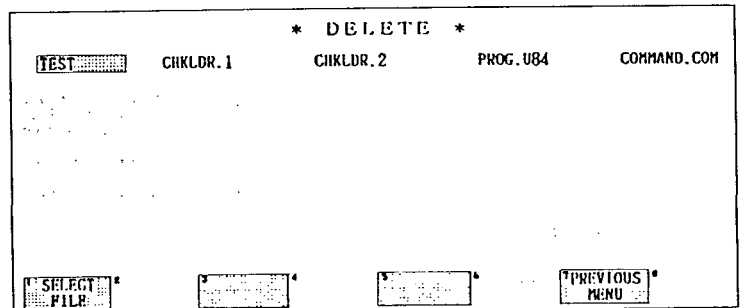
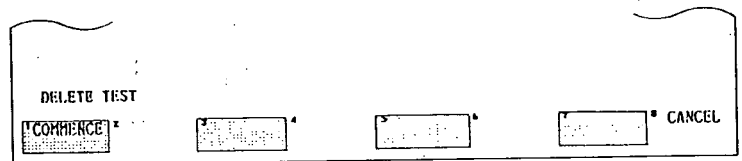

Fig. 7.142
Fig. 7.143
1. Depressing CANCEL key Fig. 7.143 calls up the display shown in Fig. 7.142 again.